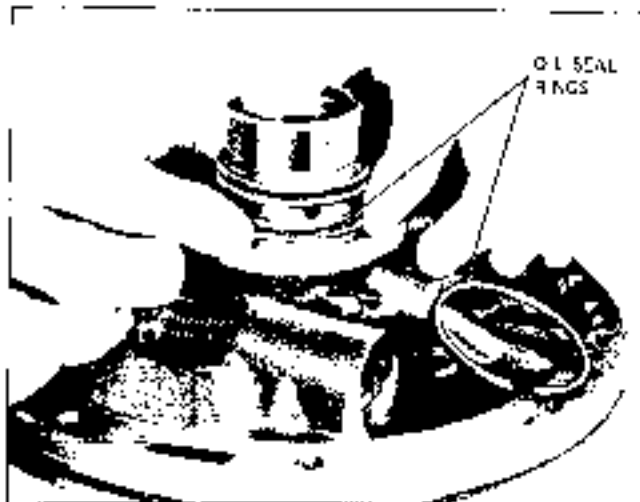

Fig. 7F-72 Removing Oil Seal Rings
6. If necessary, remove converter blow off valve. Depress converter blow off valve spring (Fig. 7F-73). Remove retaining pin, spring and valve.